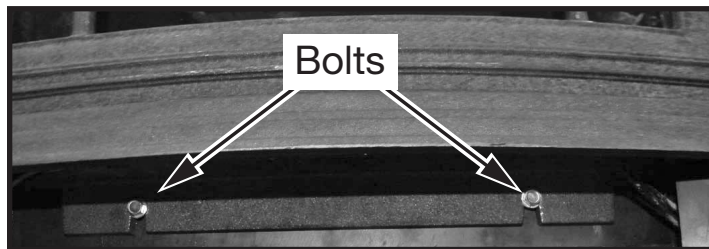
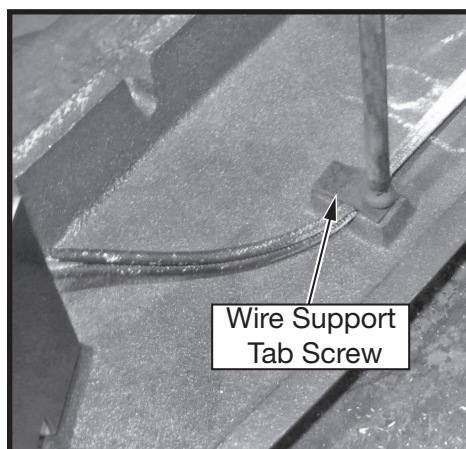

Figure 15: Bolts securing ash lip to firebox.
Figure 16: Wire Guides.
3. Loosen the two bolts that secure the ash lip to the firebox (Figure 15)6), carefully lift up the ash lip and remove from the firebox and unscrew the wire support tabs (Figure 16) noting how the wire are held in place.